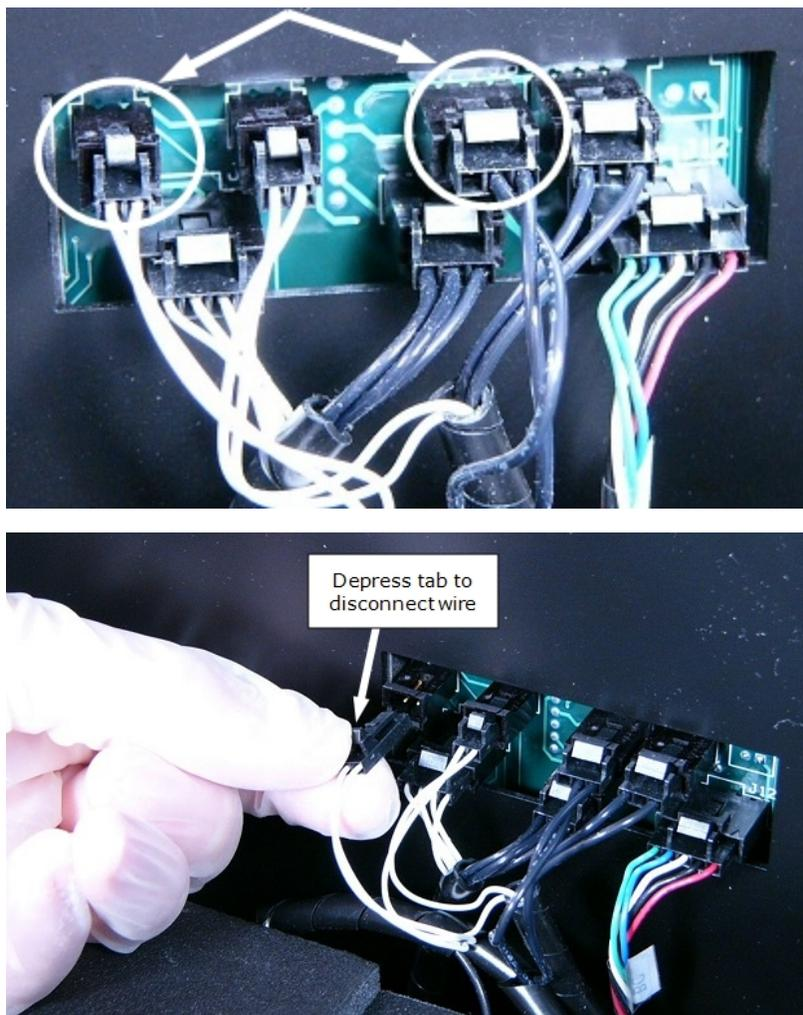

Figure 5-8: Disconnecting heater wires 1 and 3 in the top row
- Reconnect the two heater wires to the rear wall of the reader: the white wire fits into position 1 (Figure 5-8) in the top row of wires; the black wire fits into position 3.